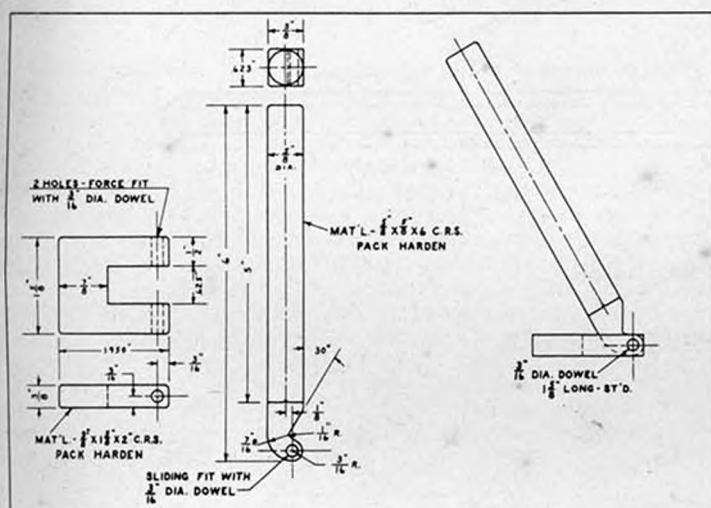

Fig. 14.
2. Sear assembly tool - Type A - (Fig. 14). - This tool is used to facilitate the assembly and disassembly of the sear and sear block assembly in the receiver plate. A 5/16 inch diameter steel rod, 5 inches long, is used in conjunction with the tool. The tool consists of three parts: the body, handle and a dowel pin 3/16 inch in diameter. The body is a rectangular piece slotted axially at its forward end to accommodate the handle. The forward end is also drilled transversely to receive the dowel